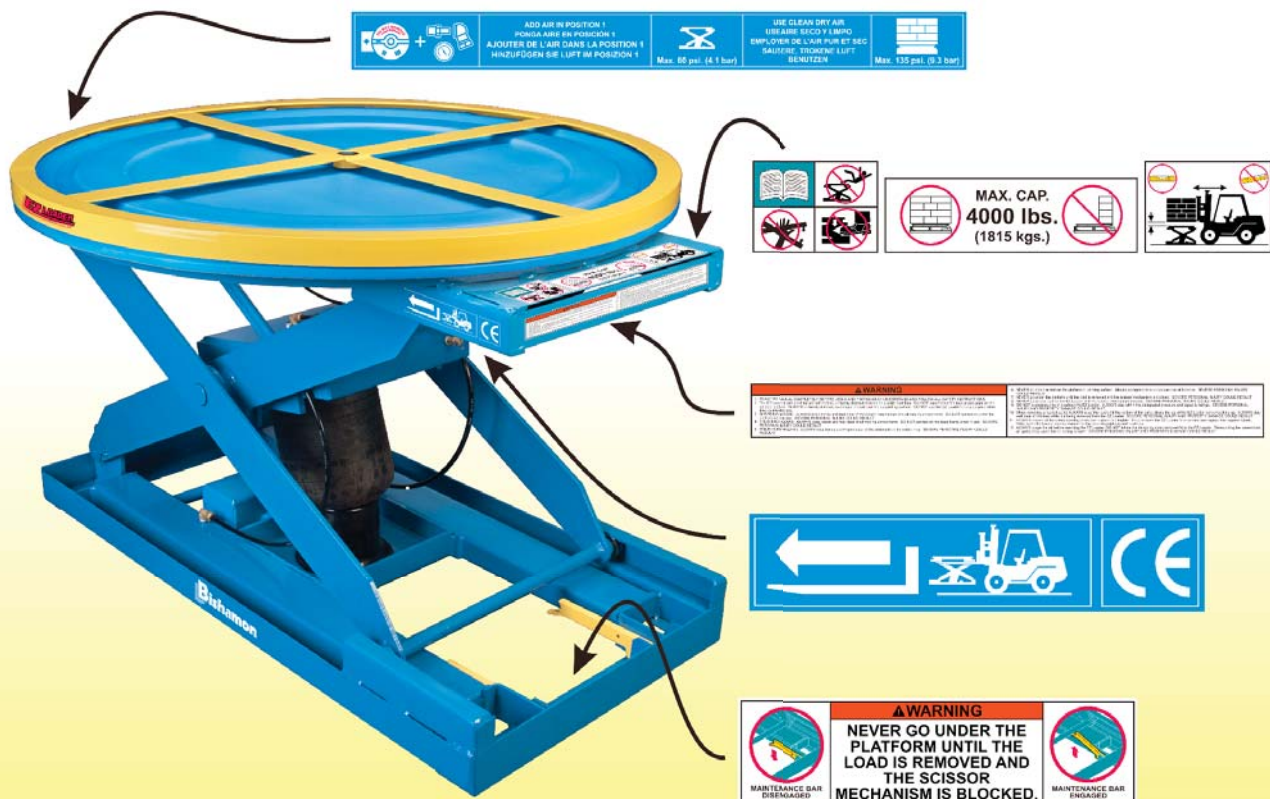

Figure 1 Safety Warning Label Locations
11. ALWAYS ensure all safety warning labels are in place and legible. If not, remove the EZ Loader from service and replace the required labels. Refer to Figure 1 for label descriptions and locations.